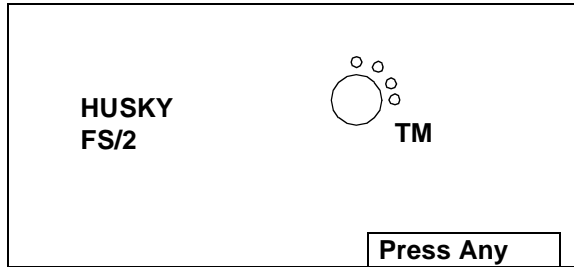

Figure A.1. FS/2 or FS/3 Opening Screen
4. If the FS/2 or FS/3 is being used for the first time, or if the FS/2 or FS/3 has been rebooted since its last use, the FS/2 or FS/3 opening screen appears (Figure A.1). If this is the case, go to step 8, otherwise go to step 5.
The FS/2 or FS/3 is recharged as follows: 1. With the DOS prompt on the screen, press the PAW key (shown in FIGURE A.1.) and the H key to access the FS/2 or FS/3 setup screen. 2. Press the right arrow twice and press YES to access the power parameters screen. 3. Set **ADVANCED POWER MANAGEMENT (APM)** to YES (up or down arrow as necessary, then YES). 4. Press right or left arrow until **CHARGING AUTHORISATION** is highlighted. 5. Use up or down arrow to select **LEVEL 3**. 6. Press YES. 7. Press red power key to turn off FS/2 or FS/3. 8. Connect FS/2 or FS/3 power adapter to facility power and to power port on bottom of FS/2 or FS/3; message “CHARGING IN PROGRESS” appears on the FS/2 or FS/3 screen. When charging is complete, the message “CHARGING COMPLETED” appears.